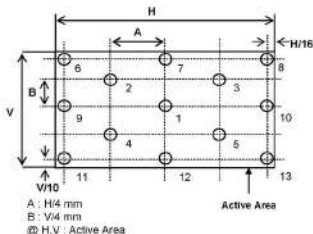

FIG. 2 Measure Point for Luminance
2. Surface luminance(L_W)is luminance value at 5 points average across the LCD surface 50cm from the surface with all pixels displaying white. For more information see FIG 2.
For more information see FIG 2.